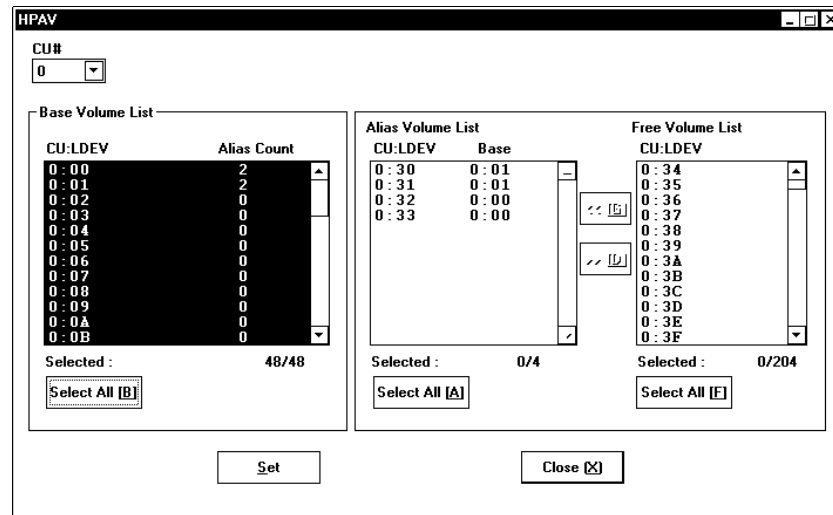

Fig. 13.7 HPAV main panel (A list of aliases in the specified CU is display)
3. From the Base Volume List box, click **Select All** to select all the base volumes. The Alias Volume List box displays a list of aliases in the selected CU (see Fig. 13.7). In the Base column appear the CU number and the LDEV number of the base volume corresponding to the alias.